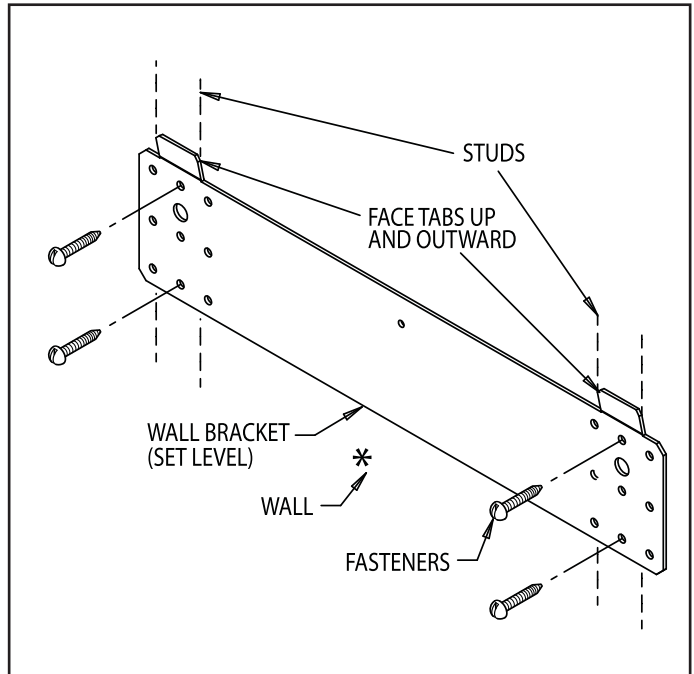

Figure 4a. Wall bracket securement
- A. Provide a solid, level foundation or vertical wall capable of supporting the weight of the boiler filled with water, and extending at least 2" past the jacket on all sides. See dimensions of boilers, page 2. See also figure 4a & 4b for mounting the boiler on the wall.
Be sure that there are studs available in the proper locations, for securing the boiler wall bracket and back panel. (See Figures 4a and 4b).
A. INSTALL THE WALL BRACKET. SEE FIGURE 4a.